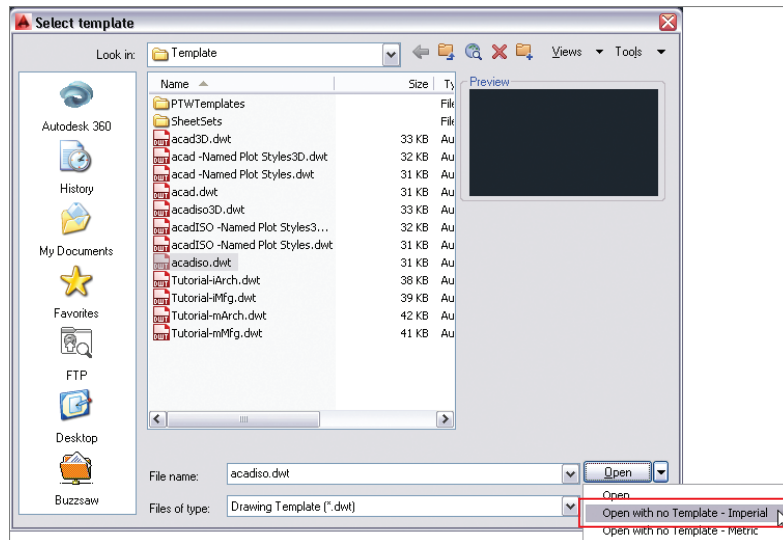

FIGURE 14.13 Creating a new drawing without using a template
3. Click the New button on the File tabs. Click the arrow button adjacent to the Open button in the Select Template dialog box that appears. Choose Open With No Template – Imperial from the drop-down menu (see Figure 14.13).